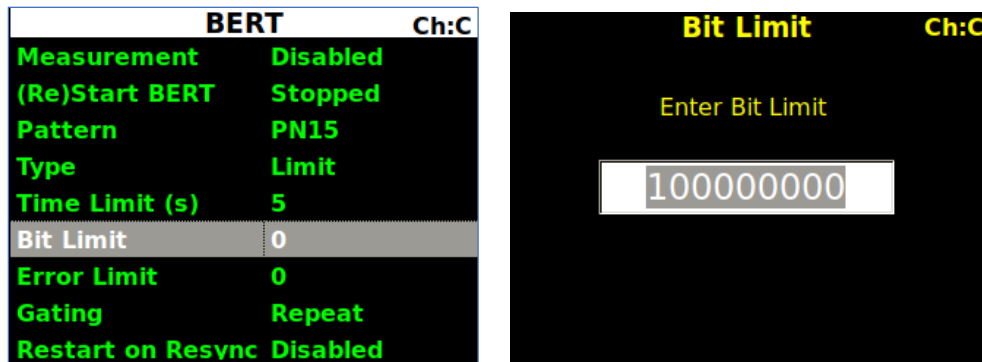

Figure 137: BERT, Bit Limit
- Bit Limit - Sets a specific number of total received bits, as shown in Figure 137; the measurement completes when the selected number of bits has been received